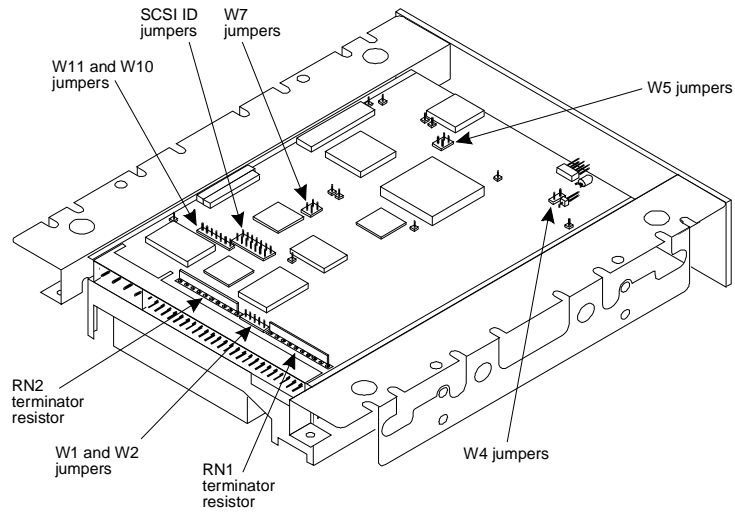
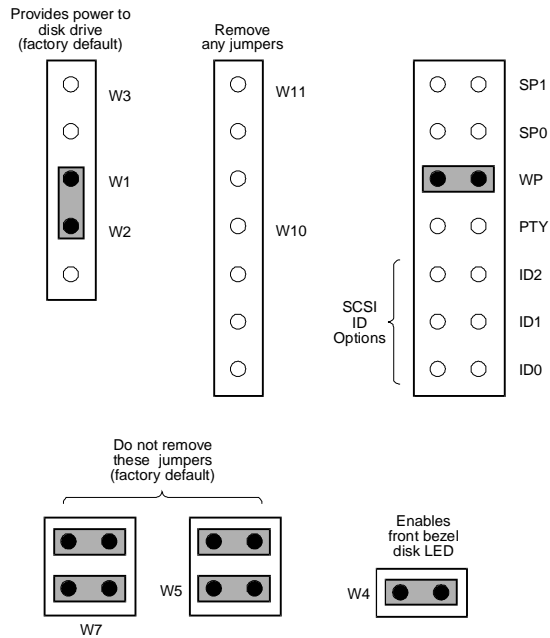
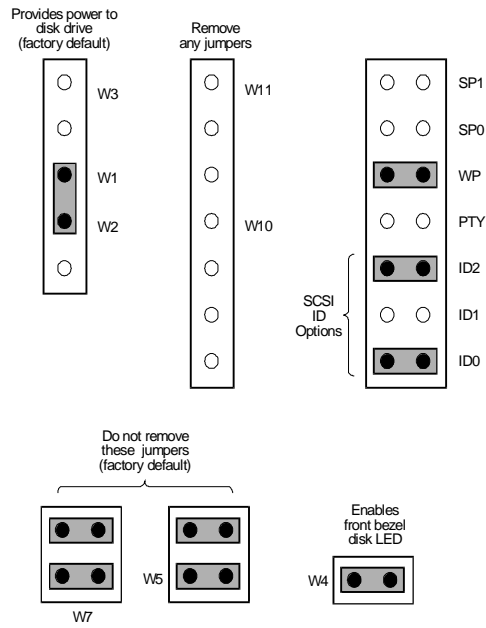

Figure A-9. Jumper Locations on the 1.7-Gbyte SCSI Hard Disk Drive (Comcode 407071950)
Figure A-10. Jumper Settings for the First 1.7-Gbyte Disk Installed; Bay 1, SCSI ID = 0
Figure A-15. Jumper Settings for Sixth 1.7-Gbyte Disk Installed; Bay 4, SCSI ID = 5
- n Figure A-9 shows the location of the jumpers on the 1.7 Gbyte SCSI hard disk drive (Comcode 407071950). Figure A-10 through Figure A-15 show the jumper settings.